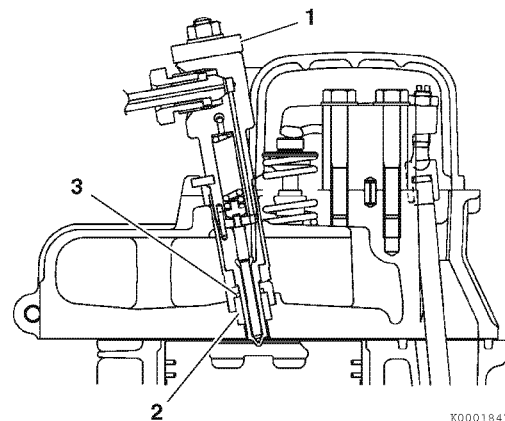

Figure 7-36
1. Install a new nozzle spacer (3, **Figure 7-36**) and gasket (2, **Figure 7-36**) on the fuel injector. *See the parts catalog for correct part number(s).*
3. Install the injector retainer plate (1, **Figure 7-36**) and tighten the nuts to specification. *See Special Torque Specifications on page 7-4.*